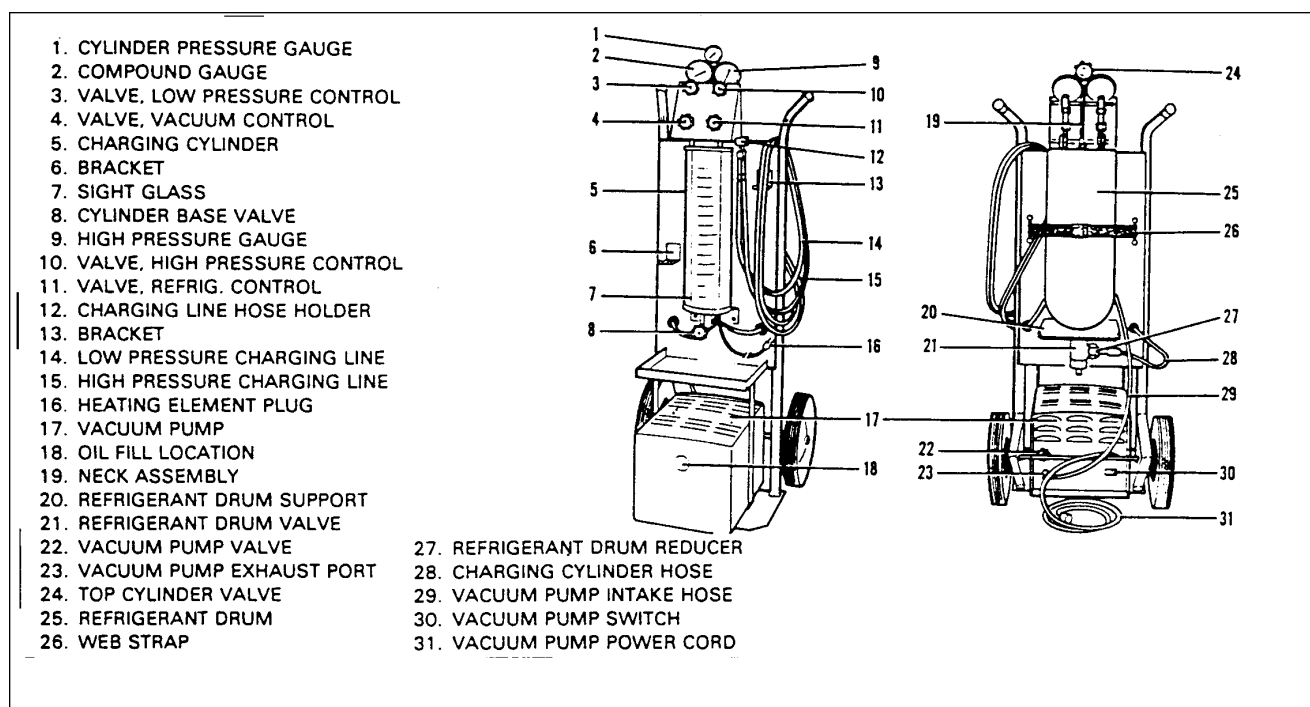

Figure 21-8. Charging Stand
Applies to Kent Moore J23500 or similar charging station. (Refer to figure 21-8.)
- I. Close all valves on charging station. (Refer to figure 21-8,)
The following instructions apply to Kent Moore, J23500 charging stand. (Refer to figure 21-8.)